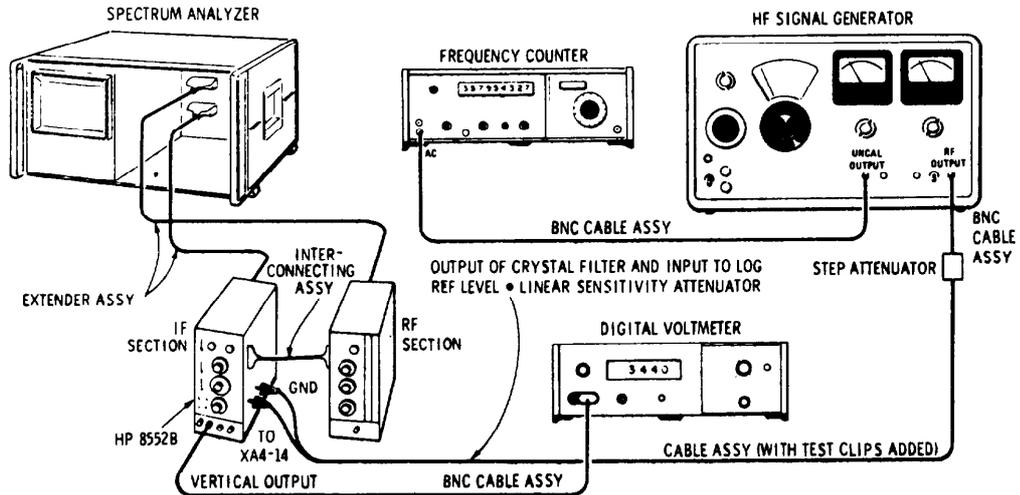

Figure 5-6. Log Linear Amplifier Check and Adjustment Test Setup
2. Make the following control settings and then connect the test setup shown in Figure 5-6.